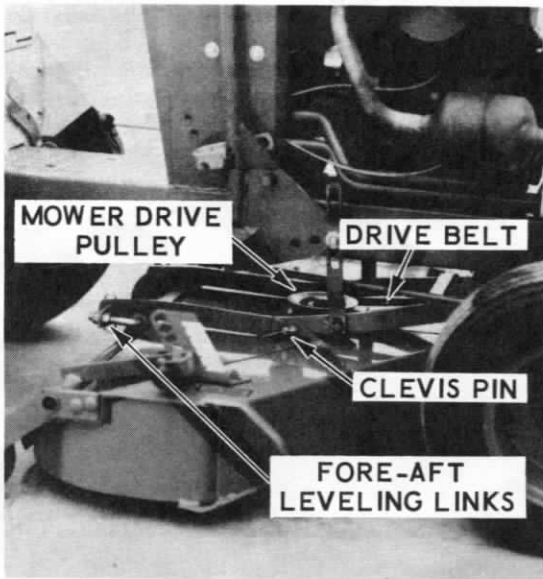

Figure 14.
7. See Figure 14. Install the fore-aft leveling links as illustrated and secure with safety pins.